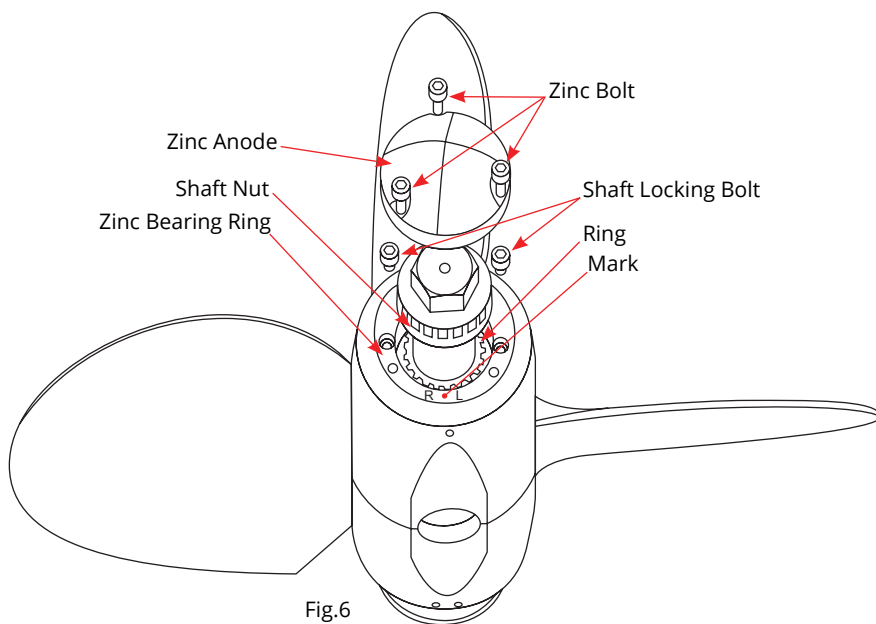

Fig.6
In order to change the rotation of the Max-Prop Easy, from a right hand rotation to a left hand rotation or vice versa do as follows, referring to Fig.6.
6. If you place the zinc bearing ring in its seat again, matching the "L" tooth with the hub reference mark, you have a left hand rotating propeller, on the contrary, with the "R" tooth you have a right rotating propeller as in Fig.6.